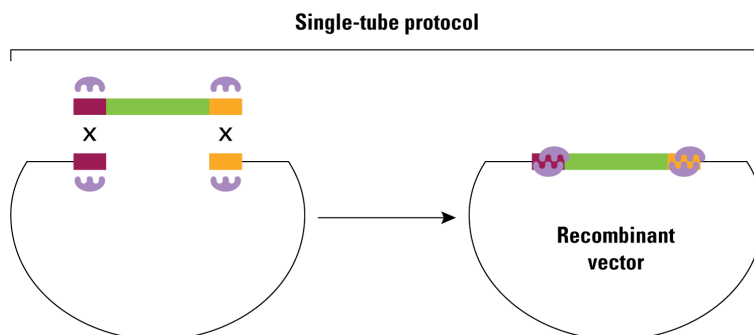

Figure 3. The In-Fusion HD Single-Tube Cloning Protocol.
1. To obtain a renewable source of plasmid DNA, transform the plasmid vector provided with your system into a suitable *E. coli* host strain, such as **Stellar Competent Cells** (Section III.G). These cells are recommended for use with our highly efficient, precise **In-Fusion HD Cloning Systems** (Section III.F) in cloning ProteoTuner constructs, and are provided with all In-Fusion HD Cloning Systems. In-Fusion HD technology (Figure 3) is described at www.clontech.com/infusion.